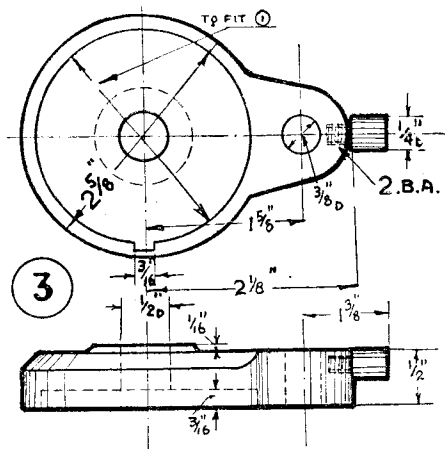

Fig. 8
THE dimensions of the top plate are shown in Fig. 8. Grip the casting in the three-jaw, chamfer side in. Face right across the lug, removing about  $\frac{1}{8}$ -in. of metal. Drill the  $\frac{1}{2}$ -in. hole but not the  $\frac{3}{8}$ -in. hole in the lug. Bore the recess to fit the pillar to a depth of  $\frac{3}{16}$ -in. and cut the keyway. The method will be explained when dealing with the carriage (5). Reverse the casting in the chuck, gripping it by the inside of the bored recess, and face right across the lug, reducing the thickness to  $\frac{1}{8}$  in. Face the nut bearing boss, and reduce the height until it stands proud about  $\frac{1}{16}$ -in.